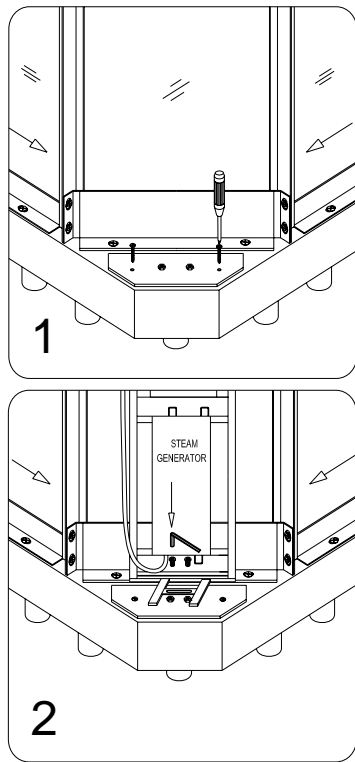

Fig. 13
13. Attach the **Bracket for steam generator (20)** onto the tray with **Flat head screw ST4.2x25 (13)**. Then place the **Steam generator (22)** onto the bracket and secure it with **Bolt M8x12 (23)**. See Fig 13 for details.